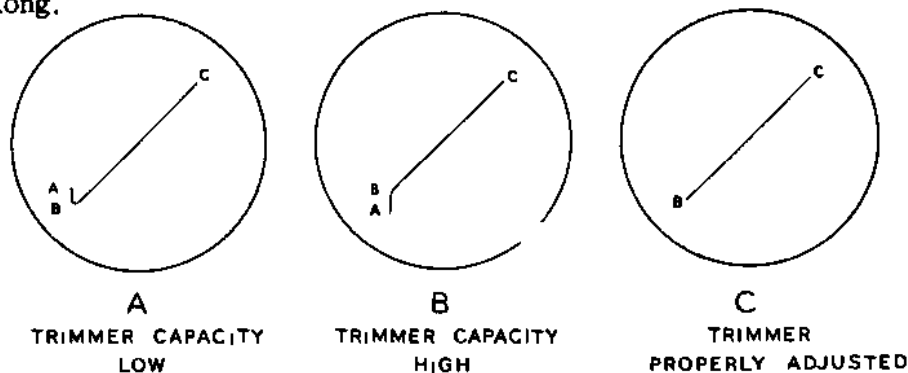

Figure 31
- () Disconnect the jumper from the 1 V. P-P terminal. Turn off the power and connect the free end of the jumper to the excess lead from "HOR. IN" on the rear circuit board. Set the FREQ. SELECTOR to the line between 1000 and 10 K and the FREQ. VERNIER to 0. Now turn on the power. You should get a trace similar to that in Figure 31 A or B. Reduce both gain control settings so that the trace is about 2" long.
5. If you are unable to obtain straight diagonal lines when adjusting the vertical trimmers, please refer to Figure 31 on Page 31 of your O-11 manual. The patterns shown there present a perfectly straight line between points B and C on the traces. Some users have raised questions on this point, stating that they cannot obtain a straight line between B and C. This is perfectly normal. The indication which is significant is that portion of the trace between A and B. The intention of the adjustment is to reduce this portion of the trace to a point at the lower end of the trace, thus indicating neither overshoot or slow rise time on the sharp wave-front of the sawtooth generated by the sweep oscillator. If the remaining portion of the line hallies up or down, a readjustment of the sweep oscillator frequency will probably locate a point where the effect is changed radically. This variation is due to minor phase shift relationships in the amplifier circuits, not to defective or improper compensating.